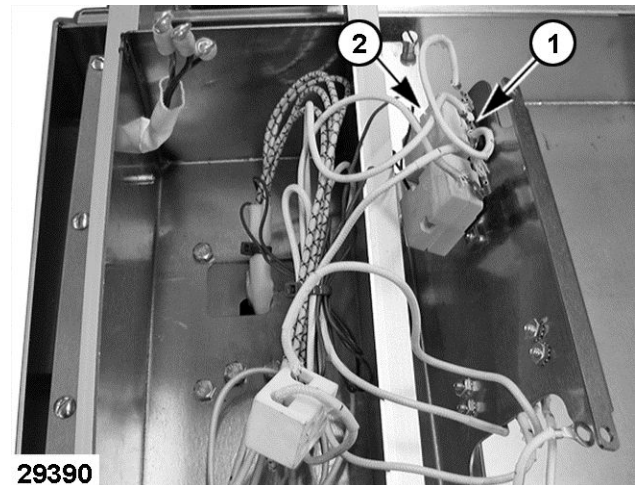

Fig. 25
3. Note wire locations (1, Fig. 25) and disconnect from control thermostat (2, Fig. 25).